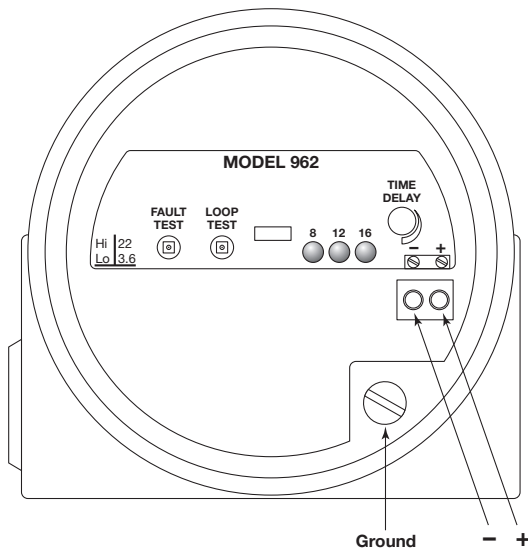

Figure 12
4. Refer to Figure 12. Connect wires to terminals (+) and (-) on the terminal block. Unshielded cable may be used. If shielded cable is used, attach shield to green head screw.